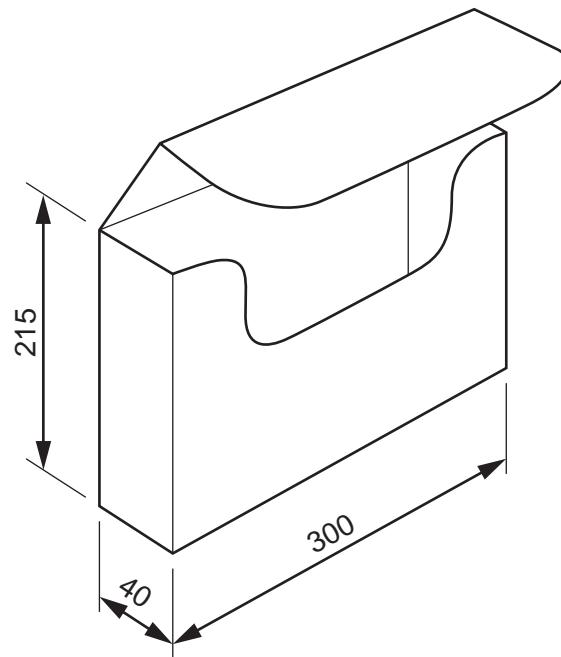

Fig. 3
- 3 Fig. 3 shows a folder which is to be made in a school workshop.